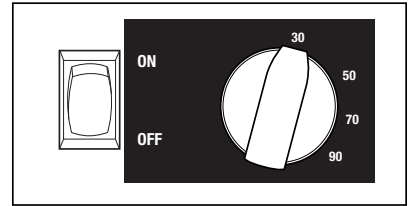

**Figure 7**
- Attach the wire compartment to the power unit with two of the provided #6 blunt tipped screws (Figure 7).